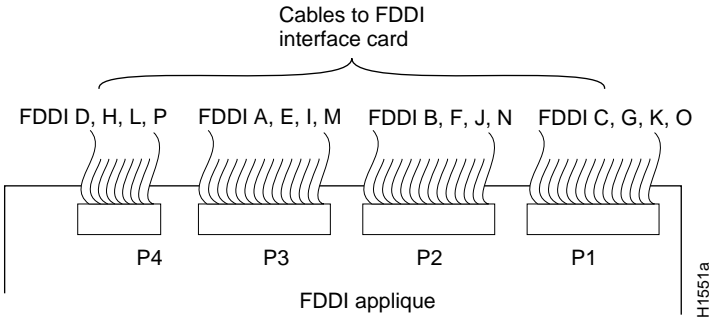

Figure 5-22 FDDI Appliance Cables to FDDI Card Connectors—Partial Component-Side View
- FDDI applique cables to FDDI card connectors, Figure 5-22